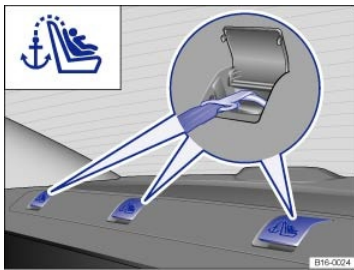

Fig. 74 Behind the rear seat backrest: Top tether anchorages.
- Locate the tether anchor behind the rear seat backrest ⇒ Fig. 74.
- Fold up the cover of the respective anchorage ⇒ Fig. 74.
- Attach the tether strap anchorage hook into the opening of the tether anchorage ⇒ Fig. 74.